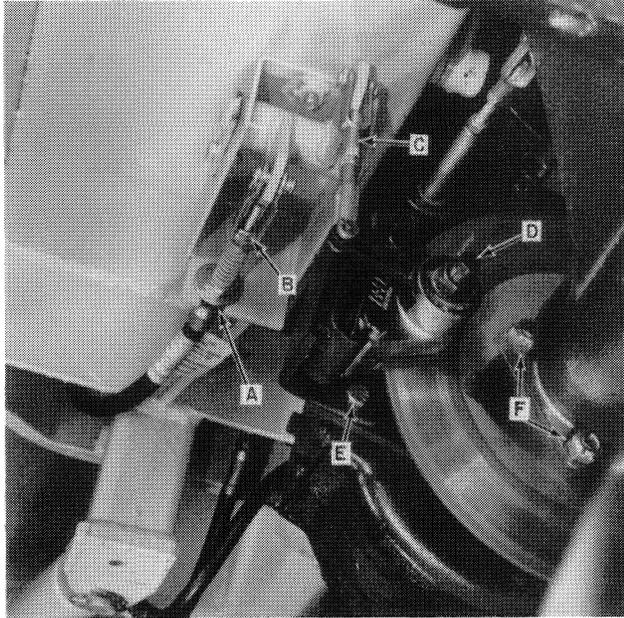
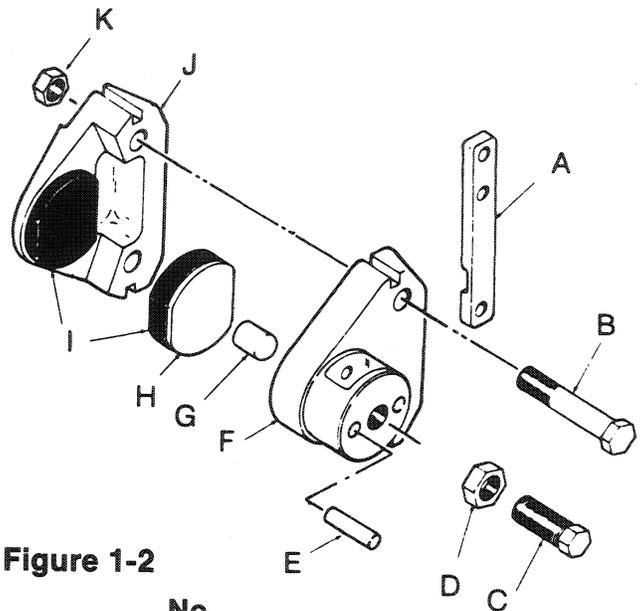

FIGURE 1-1
Figure 1-2
The brake assembly, Figure 1-1, has two brake pads that are replaceable when worn out.
1. Remove the pin from link, C, Figure 1-1, through the yoke and brake lever.
4. Remove bolts, B, Figure 1-2, and separate the caliper halves, F-J.
5. Remove the worn pads, I, Figure 1-2, and install new ones.
6. Turn adjusting screw, D, Figure 1-1, out 3/16"-1/4" (4.76 mm-6.35 mm) and bolt the brake caliper halves back together. Tighten bolts, B, Figure 1-2, to 53 ft. lbs. (71 N·m) torque.
7. Install the caliper assembly in the mounting bracket and reinstall on the machine. Connect link, C, Figure 1-1.
8. Adjust screw, D, Figure 1-1, to obtain 0.015"-0.035" (0.38 mm-0.89 mm) clearance between the pad and brake disc.
9. Adjust link, C, and yoke, B, Figure 1-1, as required to adequate tension on the brake when the handle is locked over center in the cab.